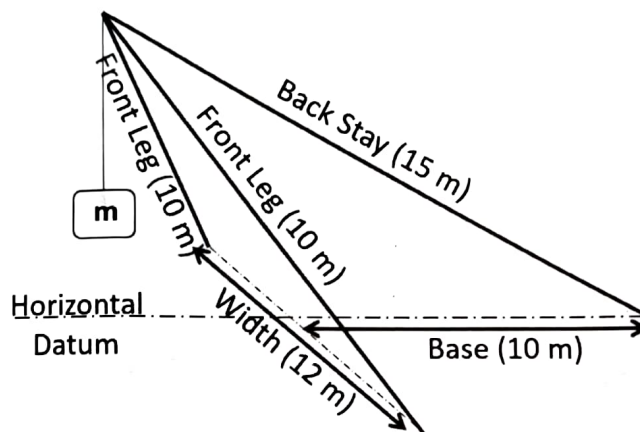

Fig Q4
4. In a set of sheer legs both front legs are 10 m long and are fixed 12 m apart on a horizontal base. The back stay of the system is 15 m long and is fixed on the same base at 10 m measured linearly from the centre of the front legs shown in Fig Q4. The mass suspended by the system is 15.29 tonnes.